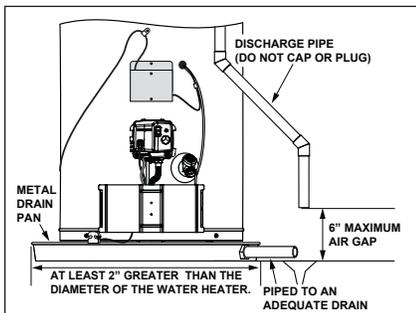

Figure 13 - A metal drain pan piped to an adequate drain can help protect flooring from leaks and drips.
- In a metal drain pan piped to an adequate floor drain or external to the building (Figure 13).